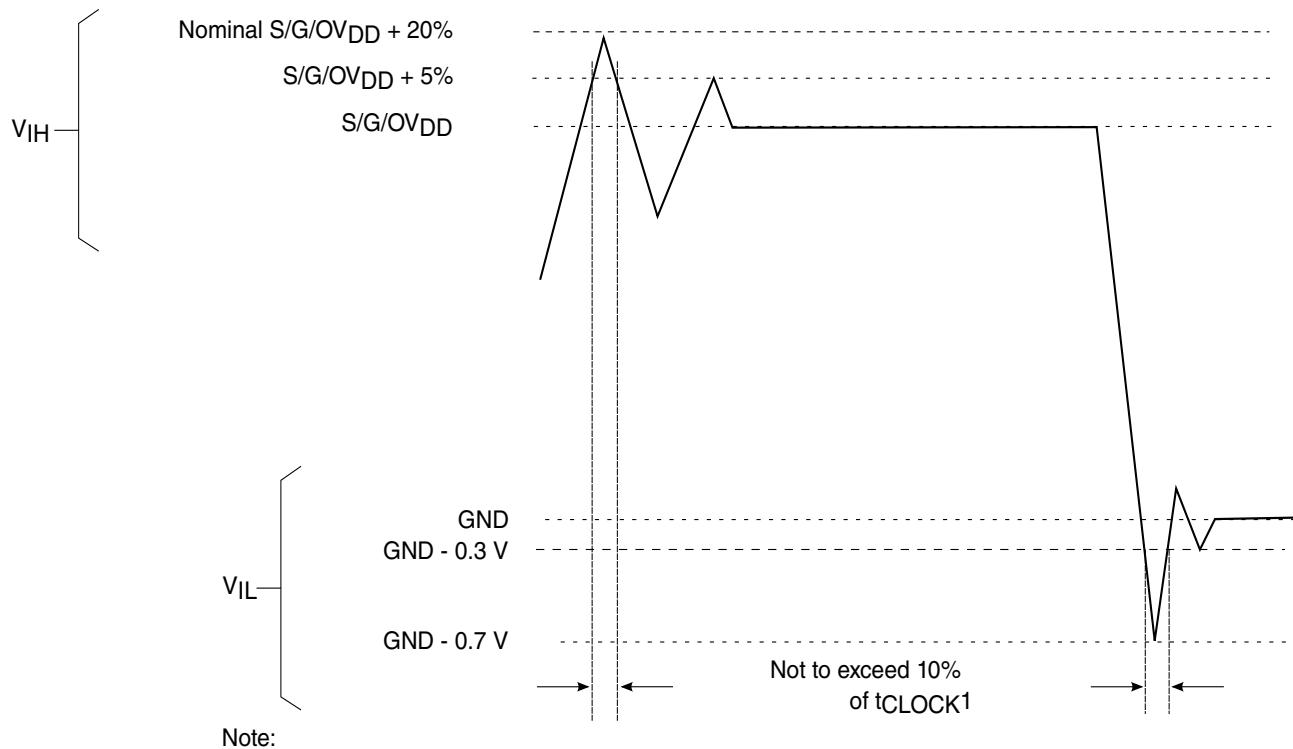

Figure 7. Overshoot/Uncrossing voltage for GV_{DD}/OV_{DD}/SV_{DD}
4. SV_{IN} , USB_HV_{IN} , USB_SV_{IN} may overshoot/undershoot to a voltage and for a maximum duration as shown in Figure 7 .